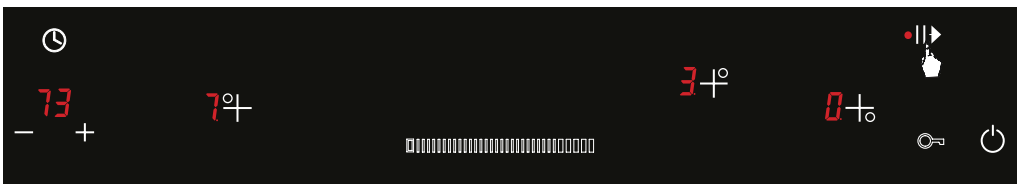

Figure 20
2. **Stop/start** (||) key allows selecting the hobs and stopping the timer. (See Fig. 20)